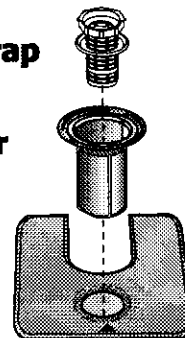

Figure 38
1. Turn the ring handle (as shown in Figure 38) 1/4 turn counter-clockwise and lift out.